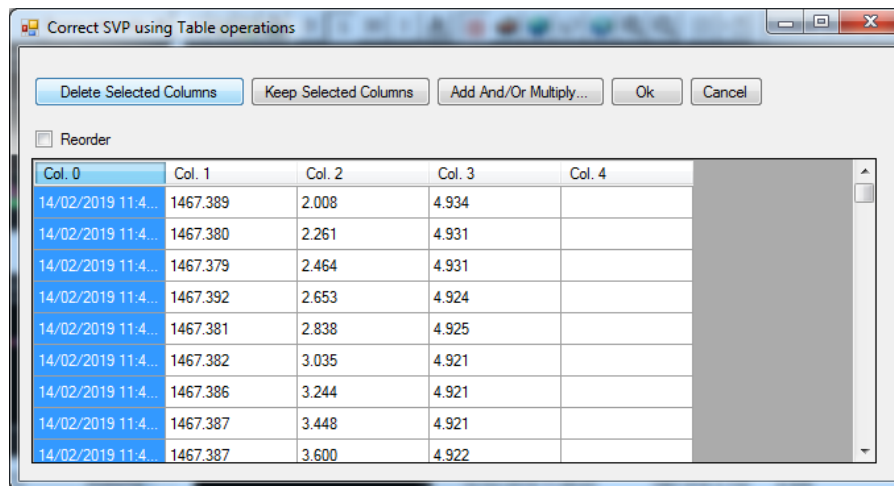

Figure 19: Delete unnecessary columns
- Press **Delete selected columns** to remove the marked columns (Figure 19)